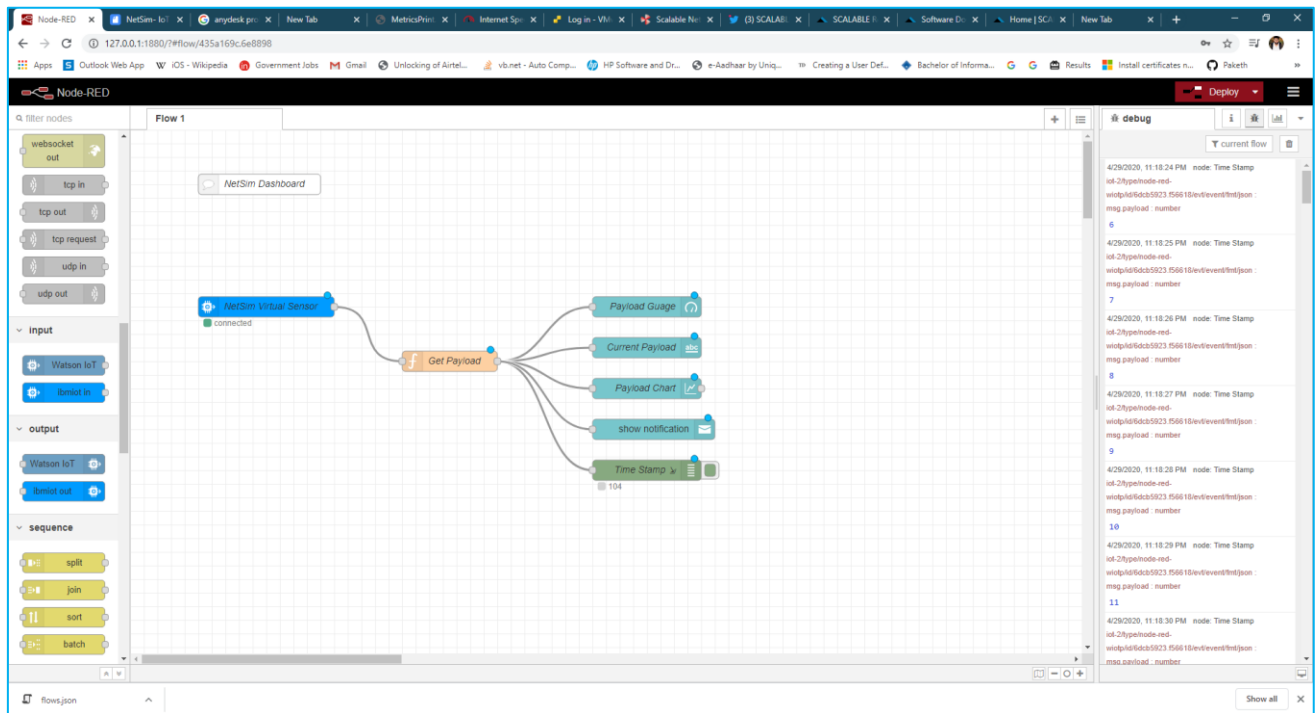

Figure 9: Design the flow graph
- Design the flow graph as shown in **Figure 9**.